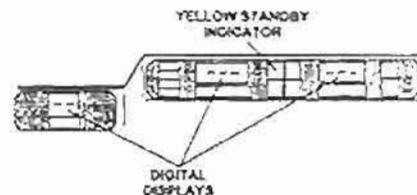

Figure 4-22. Standby mode.
d. Continue to observe the control panel. The following control panel actions will automatically occur (fig 4-22).
(1) The three digital displays show "- - -."
(2) The yellow "STDBY" indicator illuminates.